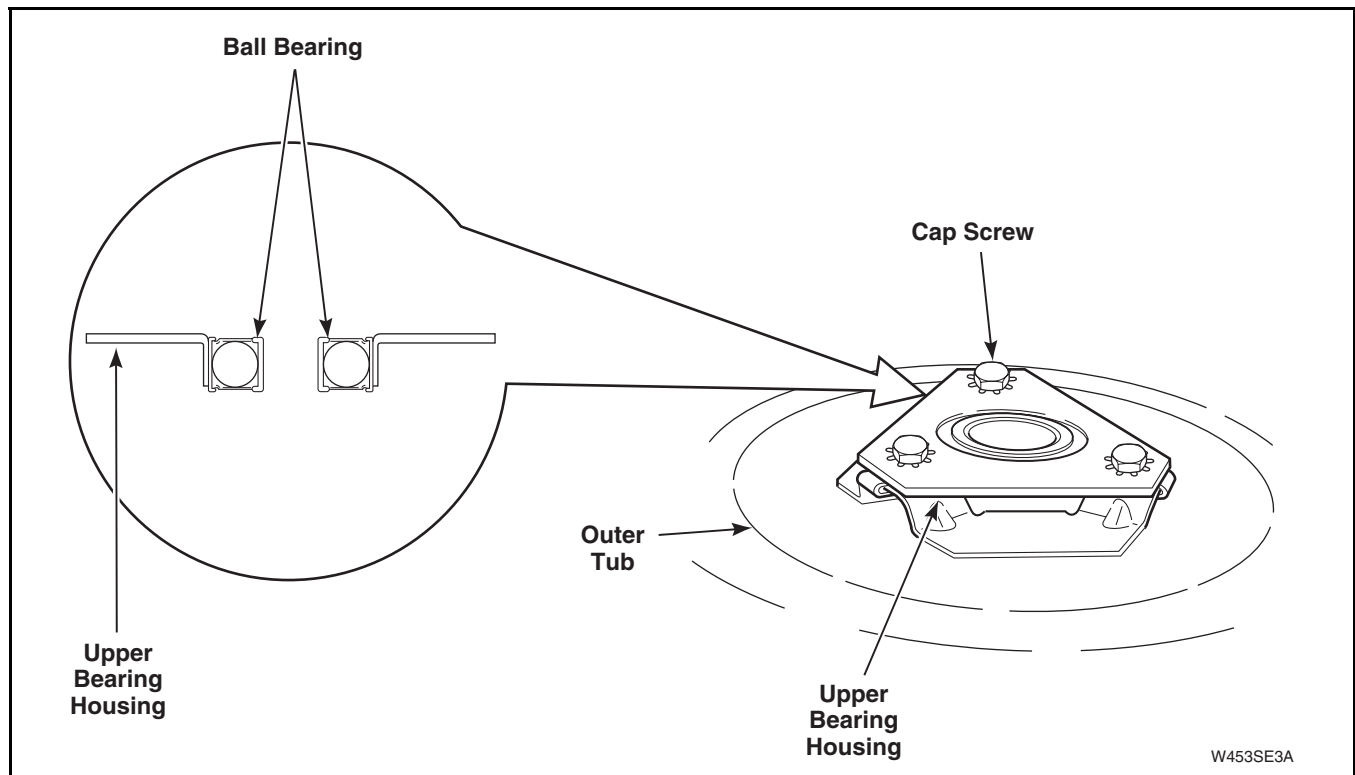

Figure 73
- Remove three screws holding upper bearing and housing to bottom of outer tub. Refer to *Figure 73*.
NOTE: Replace bearing and housing as an assembly. Refer to *Figure 73*.